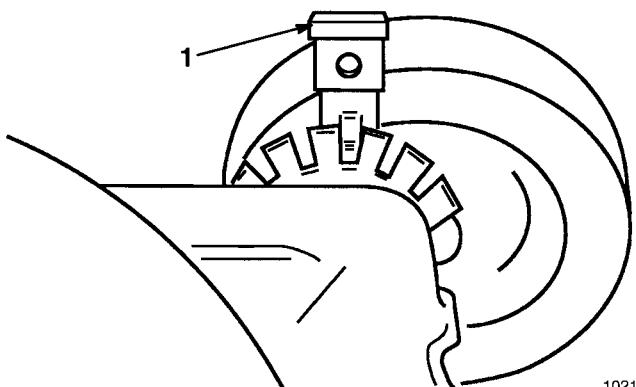

Figure 17
1. To change cutting height pull adjusting lever toward wheel and move to the desired position (Fig. 17).